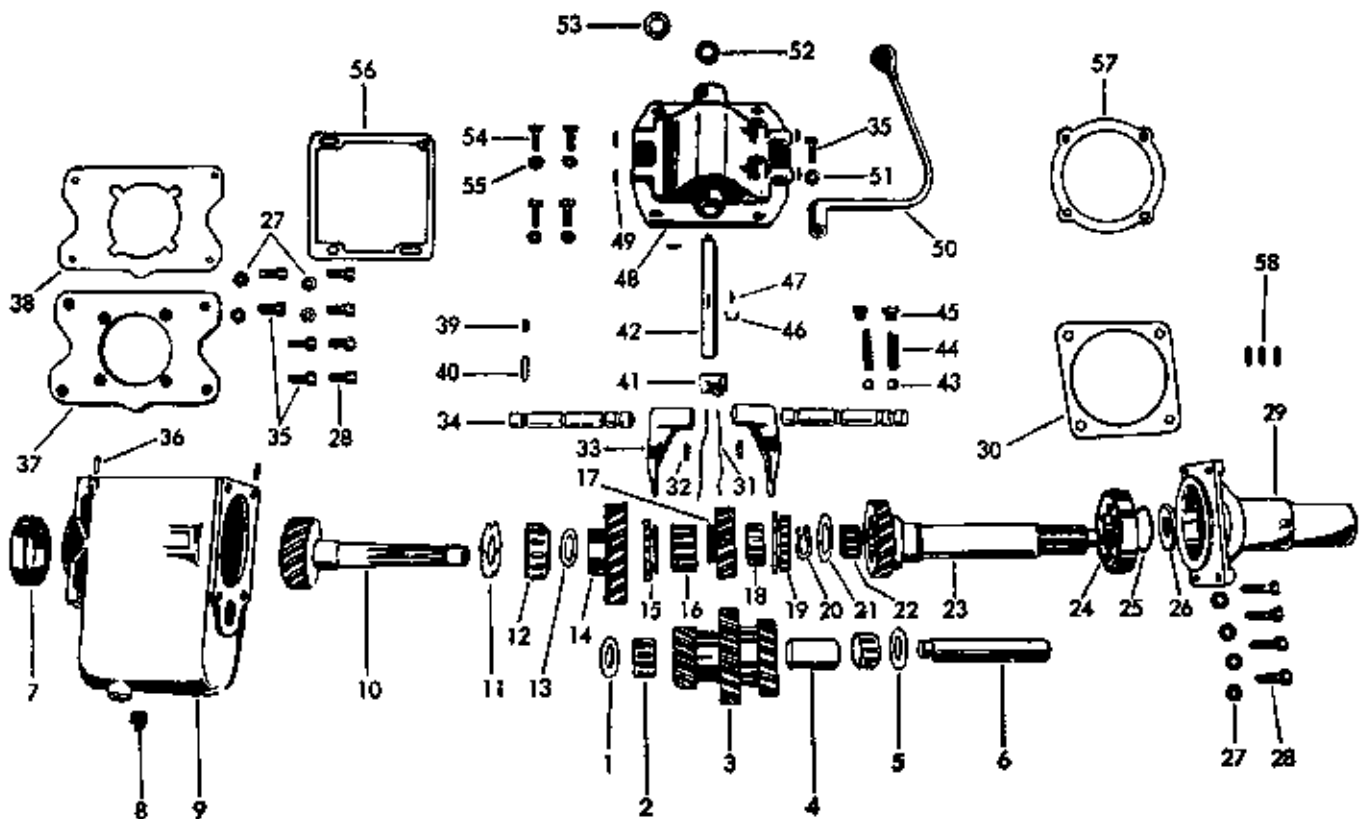

Fig. FO36—Exploded view of the Sherman transmission showing the component parts.
66. **SHIFTER RAILS AND FORKS.** To remove shifter rails and forks, the Sherman Transmission must be removed as outlined in paragraph 65. Refer to Fig. FO36 and remove the retaining cap screws and lift shifter cap assembly (48) from gear case. Remove the two detent caps (45), detent springs and detent balls from shifter cap. Remove lock wires and the drilled head cap screws from shifter fingers (forks) (33). Remove the Welch plugs (49) from the shifter rod bores at the rear of the shifter cap, then drive the shifter rods (34) out the front of shifter cap. Remove the set screw from the interlock bore and remove the interlock (40). Remove the snap ring from the groove on the selector shaft (42) and slide the selector fork (41) and snap ring (46) toward the end of the selector shaft which is opposite from the shoulder stop. Remove the Woodruff key (47) from selector shaft then withdraw selector shaft from the shifter cap (48). Remove selector shaft seal (52) from bore in shifter cap.
69. **DRIVE SHAFT.** With the Sherman Transmission removed as outlined in paragraph 65, remove shifter cap assembly as in paragraph 66 and the front support and clutch shaft assembly as in paragraph 68. Refer to Fig. FO36 and remove snap ring (20) from drive shaft (10); then remove
able in thicknesses of 0.007 and 0.012. Position new mounting flange gasket (38) and install the Sherman Transmission; at which time, the drive shaft (10) should have some end play. Now, remove shims (57—Fig. FO36) from behind mounting flange until drive shaft has zero end play, then remove one 0.007 thick shim to preload the drive shaft bearing.
72. CLUSTER GEAR AND SHAFT. Remove the Sherman Transmission from tractor as in paragraph 65 and the shifter cap, clutch shaft and drive shaft assemblies as outlined in paragraphs 66 through 69. Refer to Fig. FO36 and drift cluster shaft (6) toward rear of gear case and catch cluster gear (3) and thrust washers (1 & 5) as shaft is driven out. Remove the roller bearings (2) and the spacer (4) from the inside diameter of cluster gear (3).